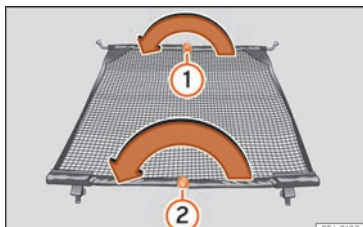

Fig. 167 Folding in the net partition.
- Press on the release button »» **Fig. 167** ① and bend the cross rod in the direction of the arrow with the button pressed.
- Press on the release button »» **Fig. 167** ② and bend the cross rod in the direction of the arrow with the button pressed.